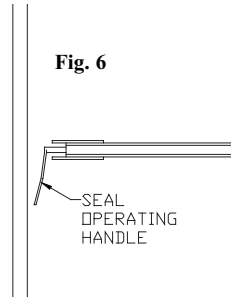
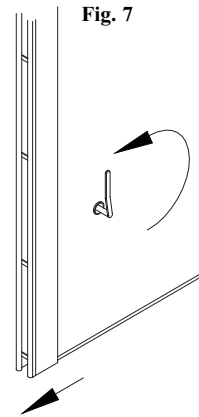

Fig. 6
Fig. 7
Move the last panel(s) into place. If you have retractable seals, you will need to extend two seals on the last panel in the opening. The first seal is located in the trail edge of the panel (Fig. 6). Insert the operating key over the exposed shaft in the vertical edge and turn key 190 degrees clockwise to set the seal(s). (The shaft may be hidden from view by the expanding post). To extend the second seal, insert the operating key over the shaft located on the face of the panel (Fig. 7). Turn the key clockwise until you feel resistance against the wall. This action extends the closure and completes the acoustical seal. Note: Make certain you apply sufficient pressure to compress the vinyl seal against the wall.